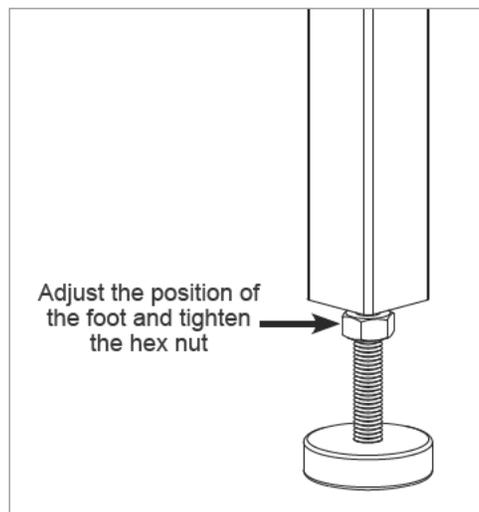

Fig. 26
16. Turn the foot on the bottom of each support leg to adjust its position until it is in solid contact with the ground. Once the foot is in contact with the ground, fully tighten the hex nut against the bottom of the leg using a 13 mm wrench (See Fig. 26).